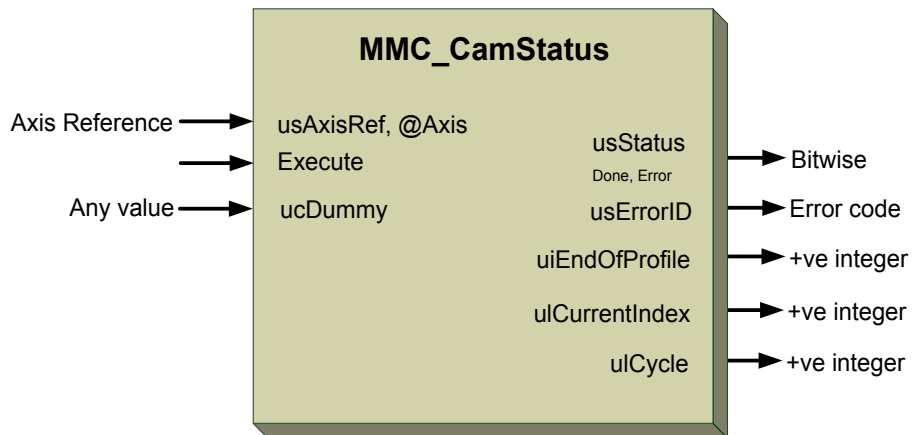

Figure 7-19: MMC\_CamStatusCmd function
**Figure 7-19** describes the function for MMC\_CamSetPropertyCmd.